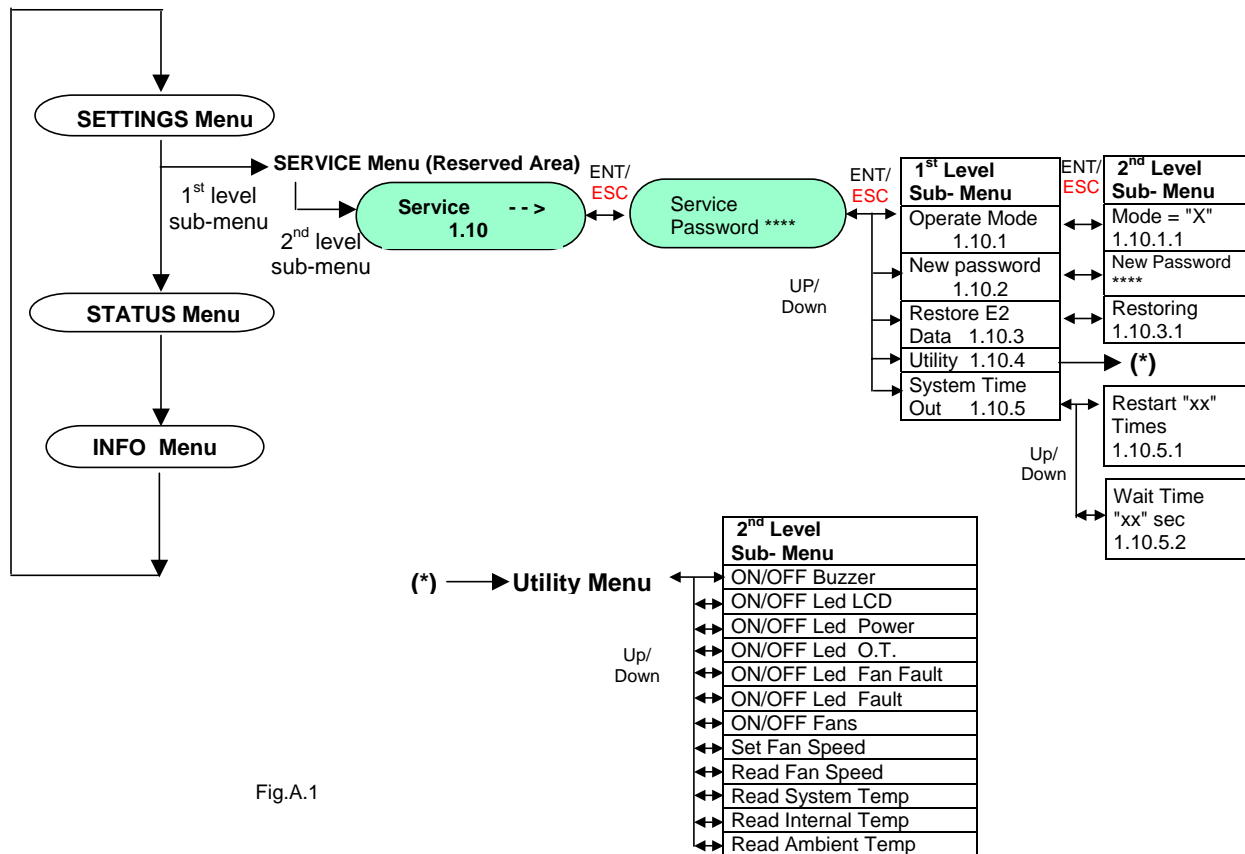

Fig.A.1
- Stand-alone mode (default mode) ⇒ set the "X" = 0 on the 2ND Level Sub- Menu on Fig.A.1
- Parallel mode ⇒ set the "X" = 2 on the 2ND Level Sub- Menu on Fig.A.1